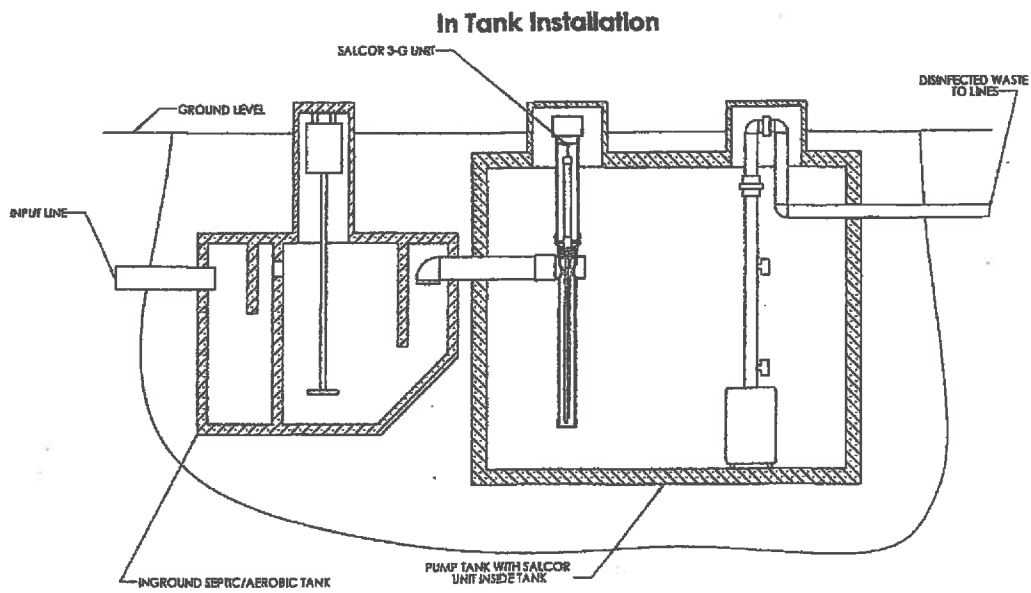

Figure 3
2. In a Pump Tank Installation: Couple the UV Unit inlet pipe to the pretreatment unit exit pipe at the entrance of the pump tank. See **Figure 3** (page 8).